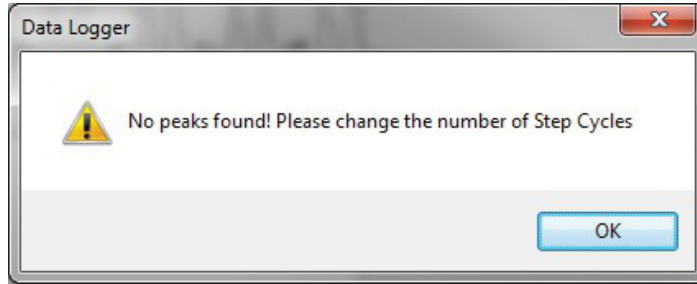

Figure 23: Error in Peaks entered in Edit Window. Click OK and enter new value
5. If a number of step cycles cannot be confirmed by the analysis program the message in Figure 23 appears requesting a change in the number of step cycles.